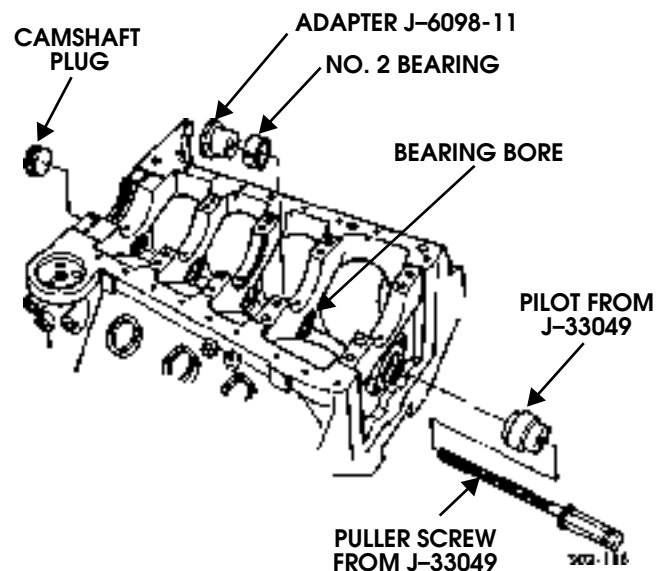

Figure 2-112: Installing Cam Bearings 2, 3, and 4
- b. Slide puller screw through pilot and No. 2 bearing bore (Figure 2-112).
- c. Position new bearing on adapter J-33049 (Figure 2-112).